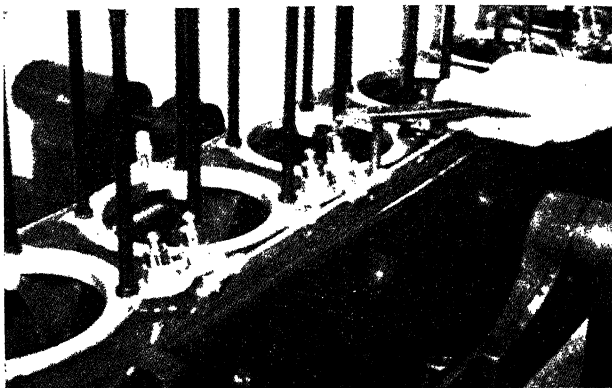

FIG. 13.—Removing tappets from crankcase.
**Tappets and Guides.**—Remove the nuts holding the tappets in place and pull the assembly out. It is possible to remove both the tappet and the guide together as the roller will clear the guide hole in the case (see Fig. 13).